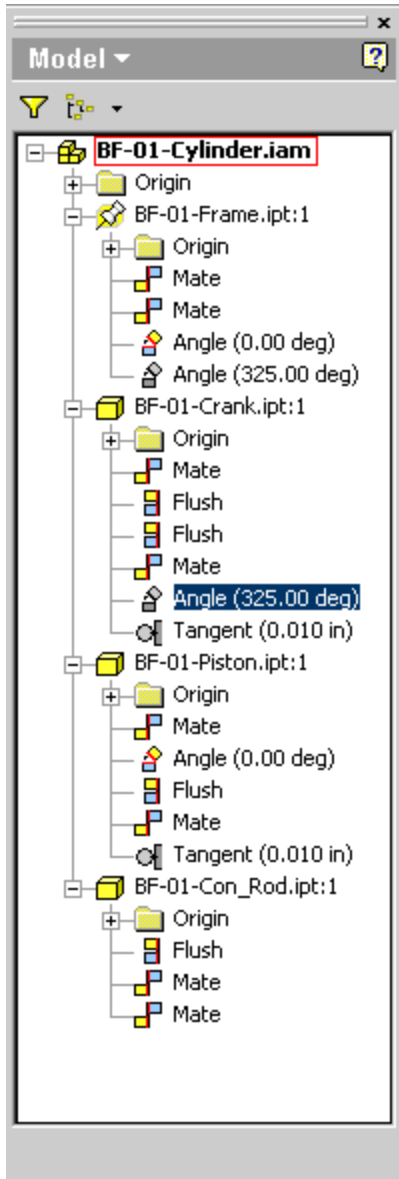

Figure 2a: The browser window with the Angle constraint selected.
2. (Optional) Select the Angle (325.00 deg) constraint, which is under the Crank entry (see Figure 2a). The relevant faces are highlighted in a cyan color (see Figure 2b).